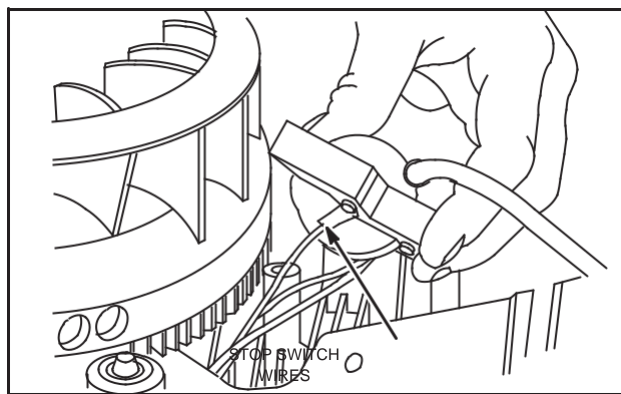

Fig. 1 – Removing Armature
3. Remove armature screws and lift off armature(s), Fig. 1.